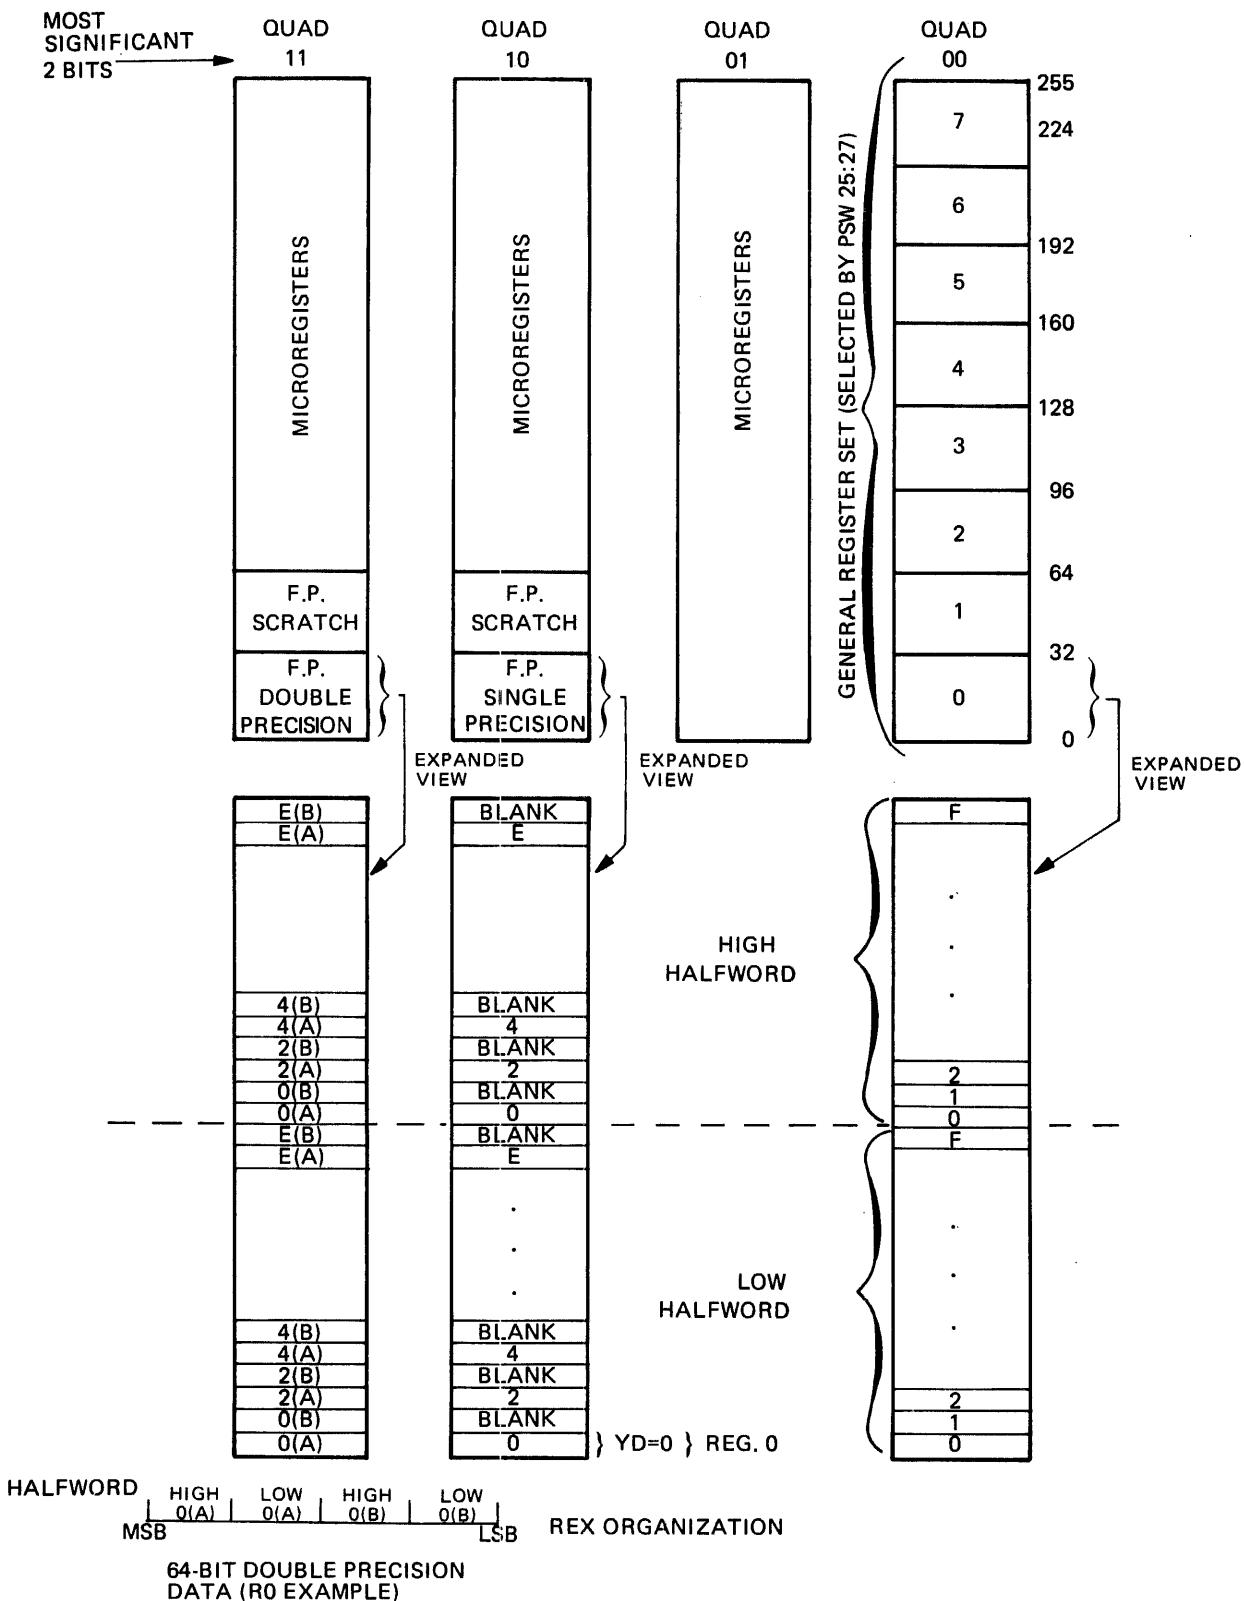

Figure 4-4 REX Organization
*The selection of REX or PROM is determined by REX constant PROM address register (Sheet 18) shown in Figure 4-4.